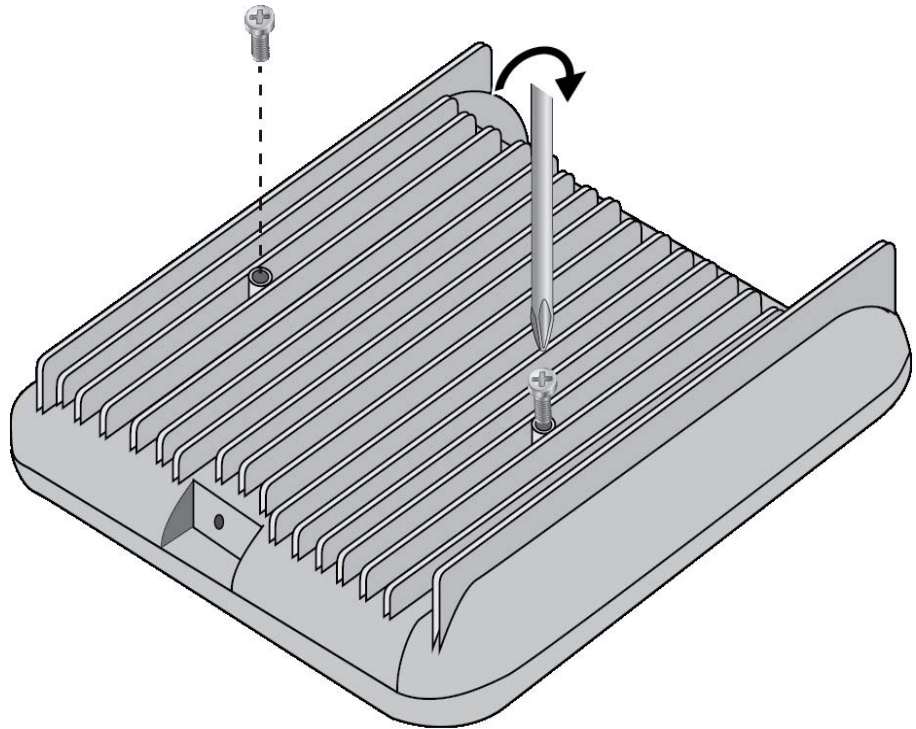

Figure 10. Installing the Bracket Screws
2. Install the two screws included with the device in the bottom panel. Leave the screws loose enough so that you can slide the bracket under the screw heads. Refer to Figure 10.